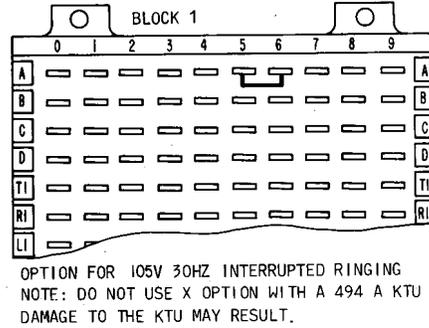

Fig. 14—X Option
**4.12** The X option (Fig. 14) provides interrupted 105-volt 30-Hz ringing to operate station ring-